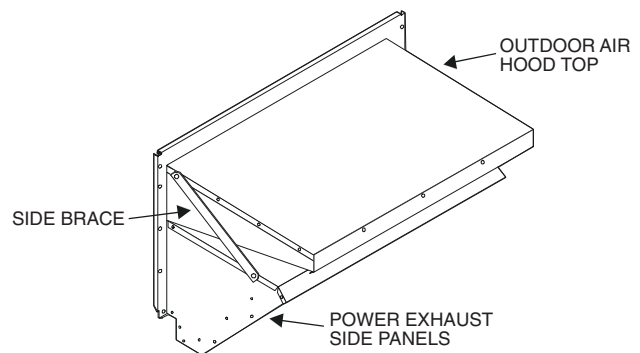

Fig. 25 — Completed Hood Assembly with Power Exhaust
6. Attach the exhaust hood side braces to the power exhaust side panels and OA hood top. (See Fig. 25.)